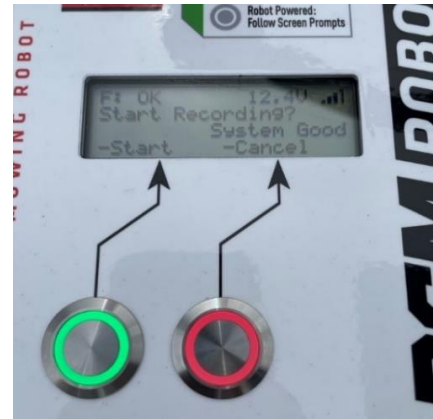

Figure 29
- Once at the point, LCD display will show "Start Recording?", press the green button and mow the zone perimeter (Figure 29).